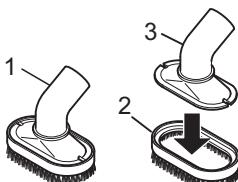

Fig.6
- Furniture brush (Fig. 6/1)**
- Upholstery nozzle (Fig. 6/3)**
By simply removing the brush attachment (Fig. 6/2) you can make an upholstery brush (Fig. 6/3) from the 2-in-1 combi-nozzle. Use this to clean soft, scratch-resistance surfaces (e.g. upholstered furniture).